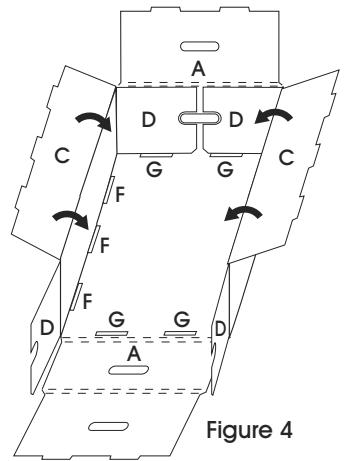

Figure 4
4. Fold side flaps (C) into slots (F). (See Figure 4)